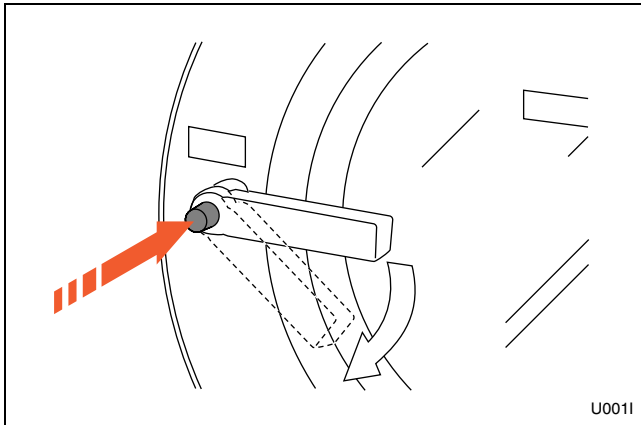

Figure 36
2. Push button and turn handle clockwise to open. Refer to *Figure 36*.